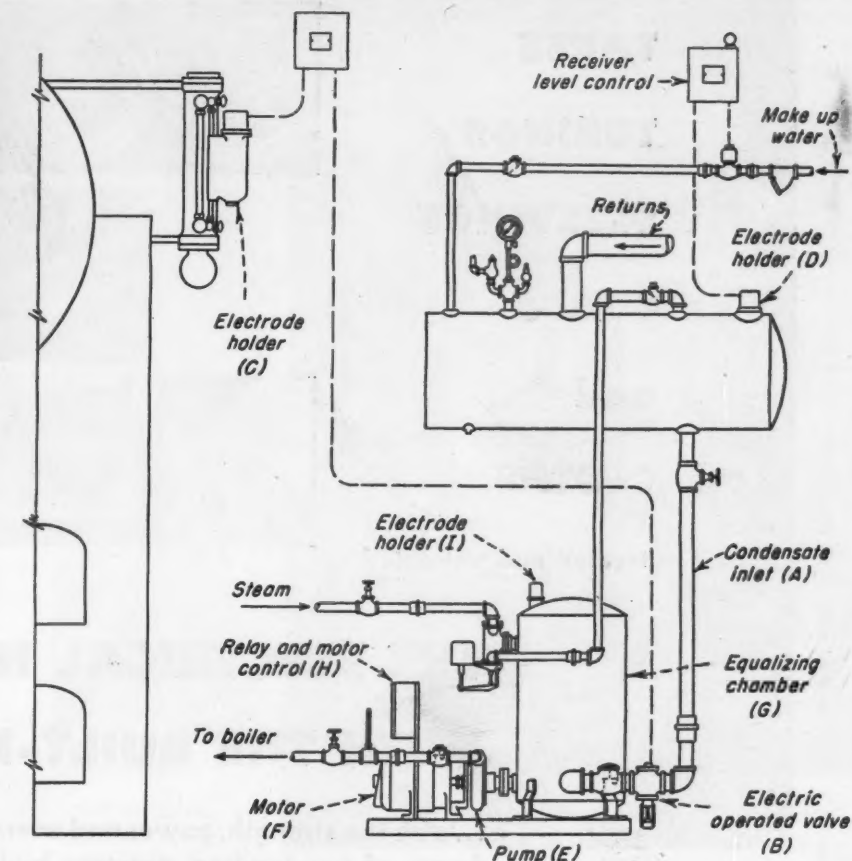

FIG. 2—Diagram showing pressure equalizing boiler feed system with pump-control method of water level regulation.
Operation of the pressure equalizing boiler feed system is simple. It is shown in outline in Fig. 2. By means of a short (high water level) and long (low water level) electrode in the electrode holder (C), installed alongside the glass water level gauge, an electric operated valve (B) in the